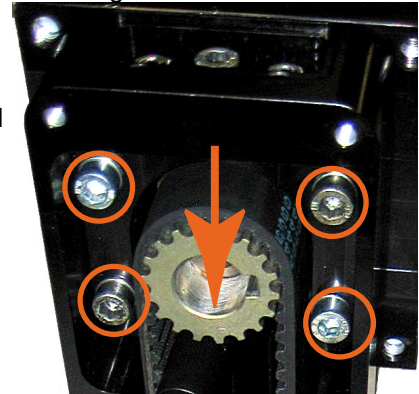

Figure 22: Release toothed belt tension
- ◆ Slightly loosen 4 screws (please refer to Figure 22 Pos.7), by 1 to 2 turns (for detailed view, please refer to Figure 20 and Figure 21.